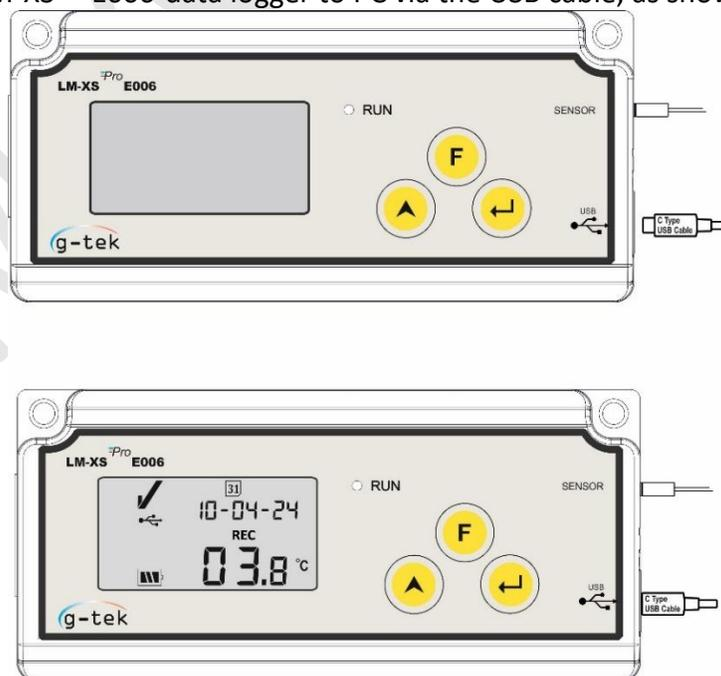

Figure 21 Micro USB Attachment
- Connect the LM-XS^{Pro} E006 data logger to PC via the USB cable, as shown in figure 21.